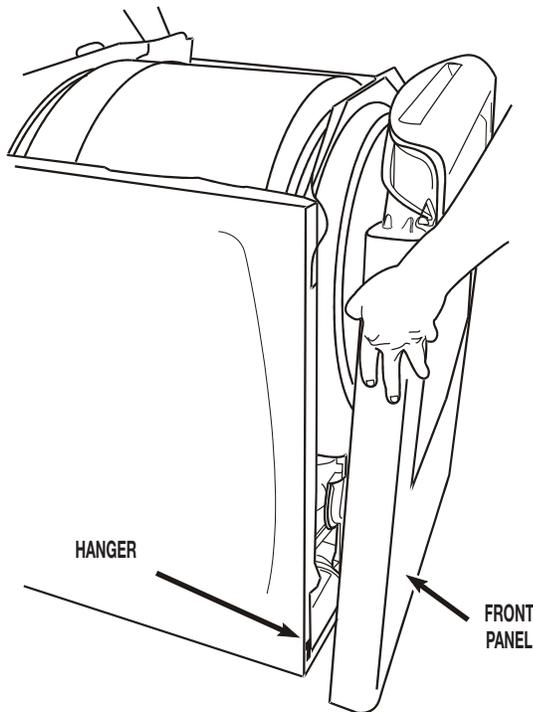

FIGURE 3
- Lift the front panel, unhook it from the bottom two hangers and remove the panel. See *Figure 3*.